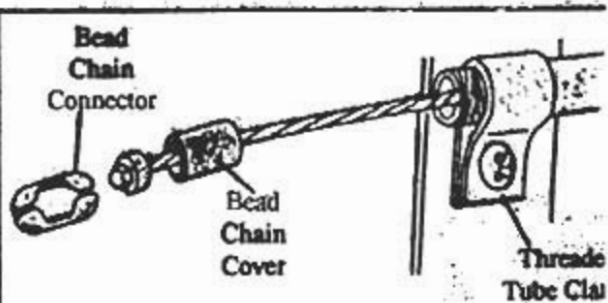

FIGURE 28
3. The Threaded Tube Clamp may be used to anchor the Cable Assembly to the existing throttle cable bracket. (Figure 28) In some cases there is an existing hole, in other cases you can drill a 3/16" hole in the bracket.